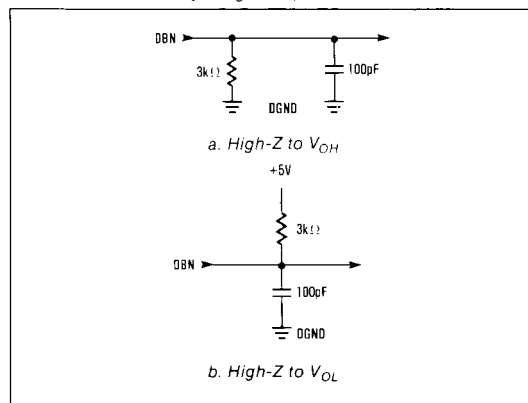

Figure 1. Load Circuits for Data Access Time Test
Note 3: Measured with load circuits of Figure 1 and defined as the time required for an output to cross 0.8V or 2.4V.
Figure 1 is a schematic diagram titled "MAX150 MX7820 Address Decode". It illustrates the connection between a Z80 microprocessor and a MAX150 MX7820 decoder. The Z80 is represented on the left with pins AD 15, MREQ, CS, WAIT, RD, and D0-D7. The MAX150 MX7820 is on the right with pins CS, WR/RDY, RD, and OBO-D07. An "ADDRESS BUS" arrow points from the Z80's AD 15 pins to the right. A "DATA BUS" arrow points from the Z80's D0-D7 pins to the right. The MREQ pin of the Z80 is connected to the EN pin of the decoder. The decoder's output 13 (CS) is connected to the CS pin of the Z80. The decoder's output 6 (WR/RDY) is connected to the WAIT pin of the Z80. The decoder's output 8 (RD) is connected to the RD pin of the Z80. A +5V supply is connected to the decoder's EN pin through a 5kΩ resistor. The MAX150 MX7820 is labeled with "MAXIM" and "MX7820".